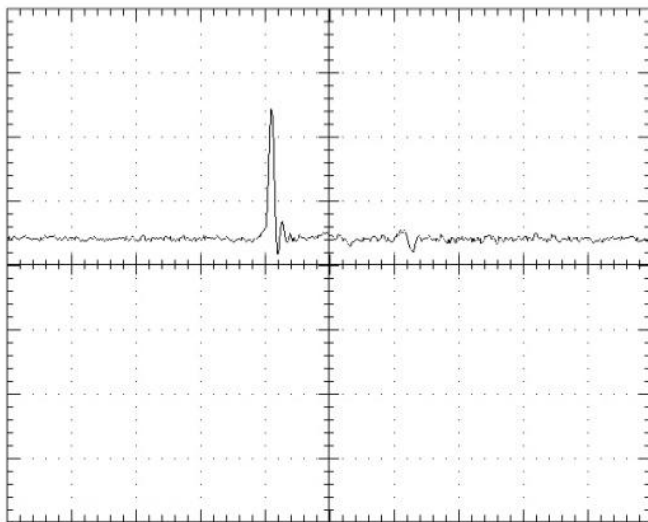

Figure E-2: Sample Start Diode Oscilloscope Image
3. **With the laser firing, take a measurement** – Adjust the trigger level on the oscilloscope as needed to obtain an accurate reading. The voltage should be ~240 mV (Figure E-2).